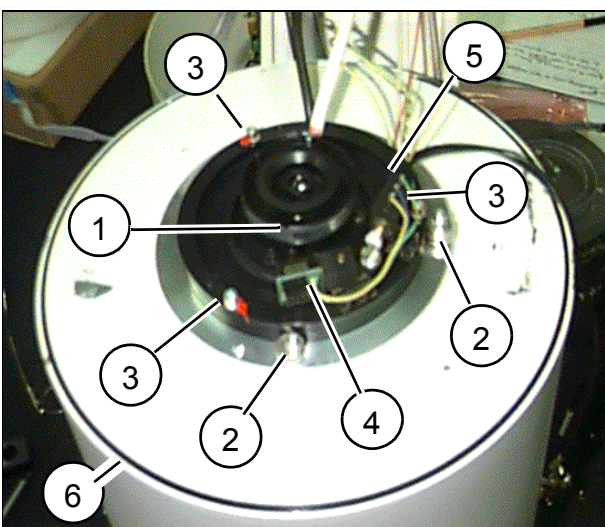

Fig. 3
- Loosen the camera set screw slightly and remove the camera (1/Fig. 3).
Do not loosen the eccentric screws (Fig. 3/2) on the edge of the Compact L optics! These are used to center the Compact L optics to the I.I. output screen. When removing the Compact L optics, make sure that no dust or dirt contaminates the I.I. output window or the Compact L optics.
- Loosen the Compact L optics (3/Fig. 3).
- Disconnect plug M30.X1 (4/Fig. 3).
- To do this, connect the ohmmeter to the potentiometer for camera rotation, position 2 and 3 (5/Fig. 3).
- Hold the camera rotation by the clamp ring (1/Fig. 3) and turn it to the correct position, if necessary.
- Check the existence of the sealing ring 6 /Fig. 3.
Check the presence of the sealing ring 6/Fig. 3 at the new I.I. If none is present, remove the sealing ring from the old I.I. (glued to the I.I. housing with 4 to 6 dots), lay it in the groove of the new I.I. housing and fix it with 4 to 6 dots of adhesive (e.g. superglue).